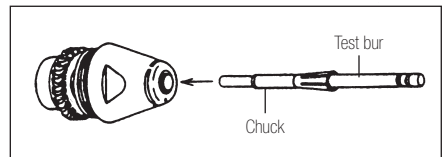

Fig.13
- 1) Apply oil thinly on the surface of the new chuck or the chuck after cleaning, insert the test bur and push into the rotor shaft. (Fig.13)